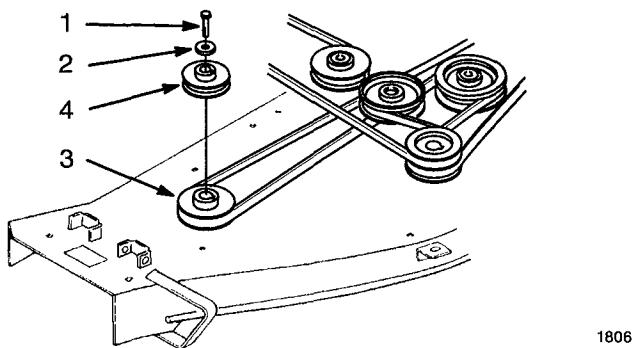

Figure 1
1. Remove bolt and washer from right hand spindle pulley and install new pulley (supplied) on top of original pulley using existing washer and new 5/8-11 x 2-1/2 bolt (Fig. 1). Align with long side of hub down so pilot engages I.D. of original mower pulley.